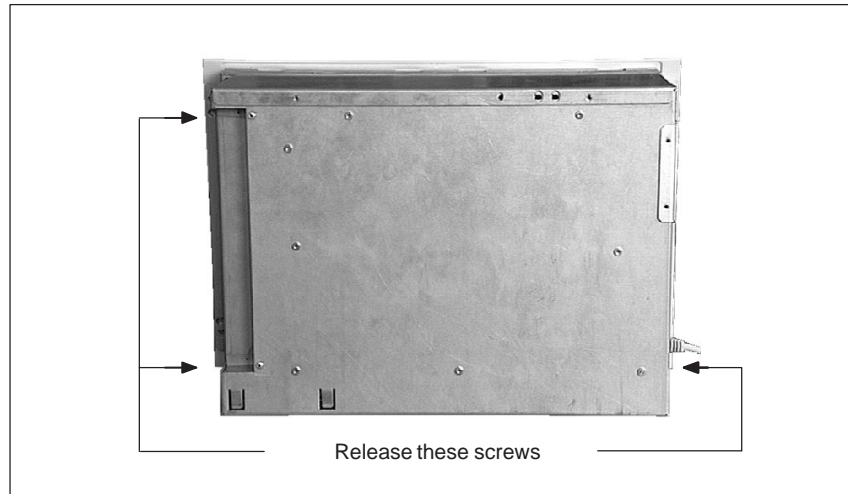

Figure 2-2 Opening the system unit
- Release the 3 screws at the system unit (figure 2-2).